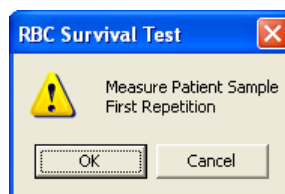

Figure 10-77
- The screen appears as shown in Figure 10-77, prompting you to measure the patient sample.